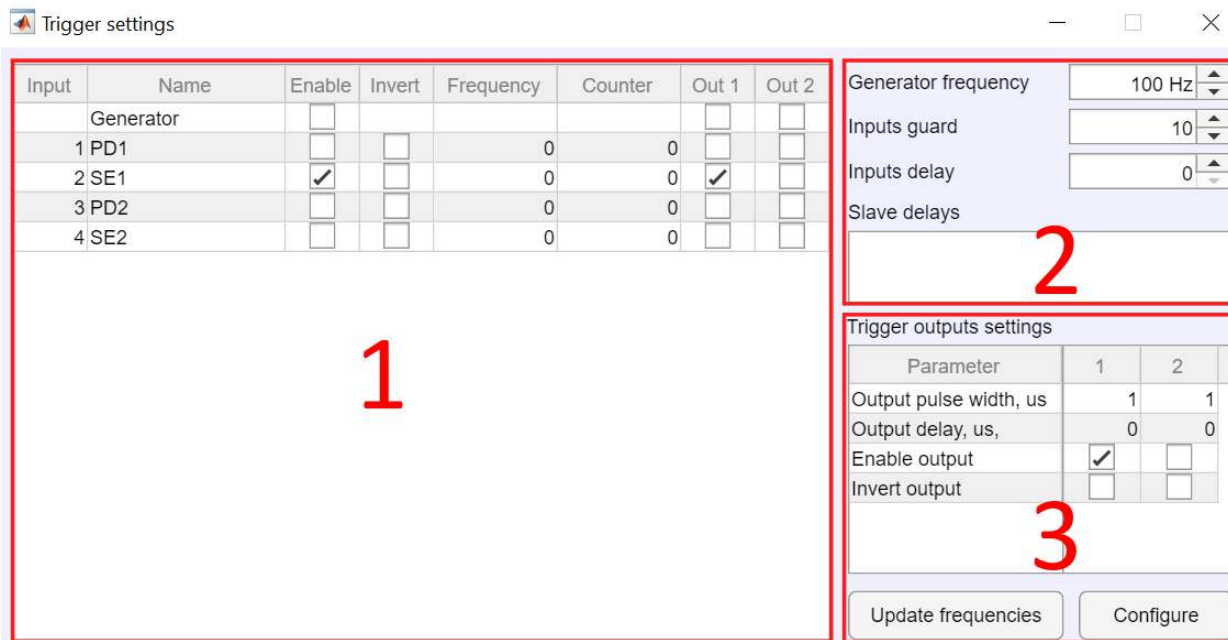

Figure 14: Trigger Window
The Trigger Window (Figure 14) has three sections: the trigger selection (1), the generator and delay (2), and the trigger output settings (3).